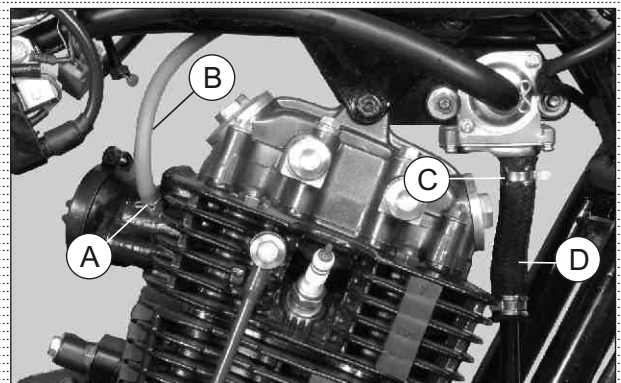

Fig. 3.41
- Dislocate hose clip (A) and disconnect the hose air cut valve (B). (Fig. 3.41)
- Dislocate hose clip no.1 (C) and disconnect the hose air outlet (D) from the secondary air injection valve. (Fig. 3.41)